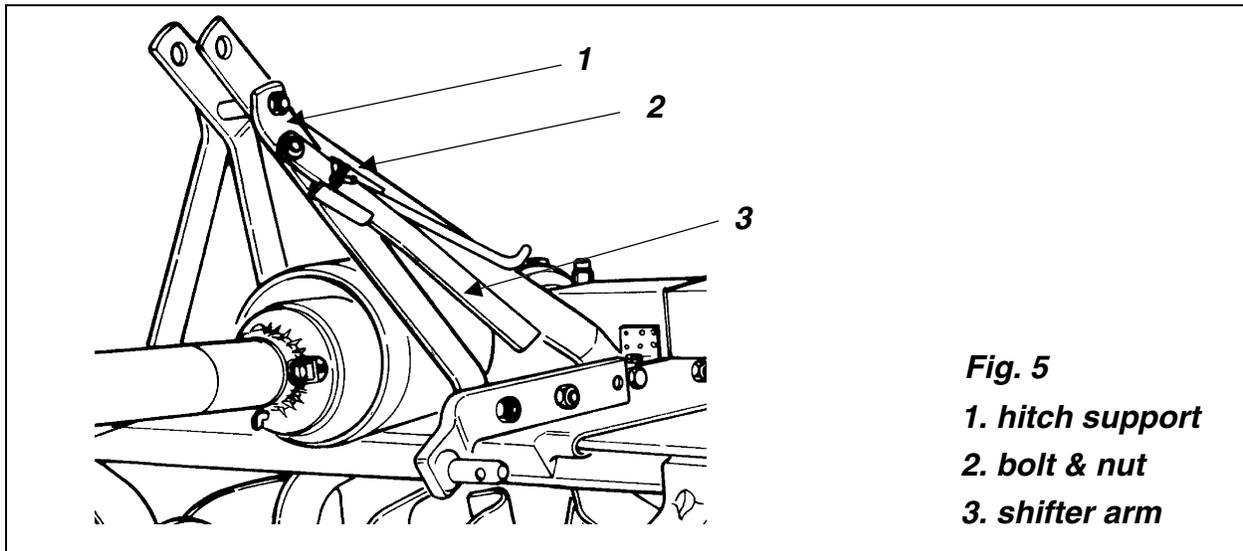

Fig. 5
5. Bolt the shifter arm (**see #3, fig. 5**) to the top hitch support (**see #1, fig. 5**) with the bolt and wing nut (**see #2, fig. 5**) provided.